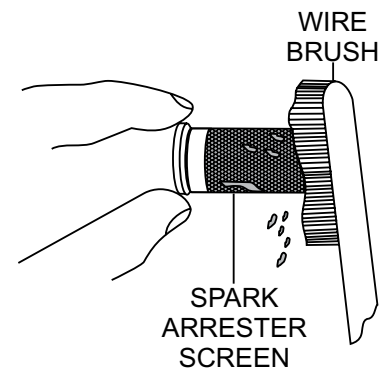

Figure 29. Cleaning The Spark Arrester
- Carefully remove carbon deposits from the spark arrester screen (Figure 29) with a wire brush.